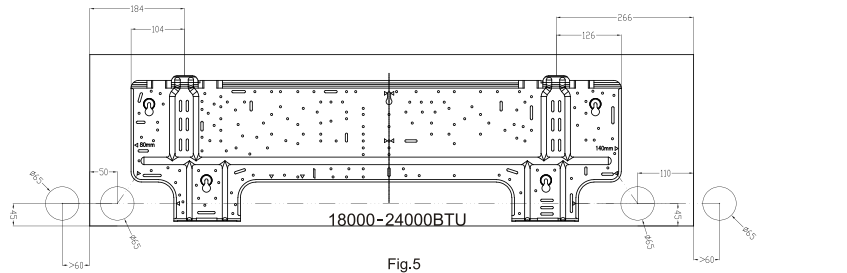

Fig.5
1. Determine hole positions according to the diagram detailed in Fig.5. Drill one (1) hole slanting slightly to outdoor side.